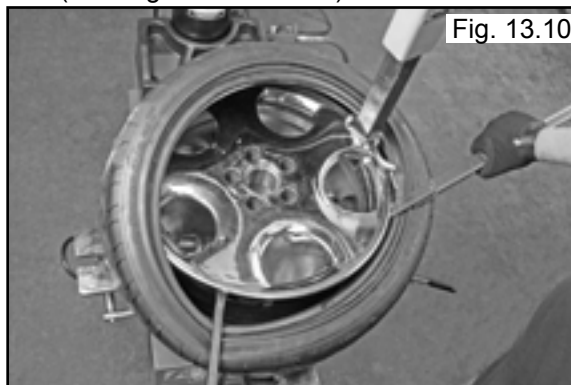

Fig. 13.10
9. Stand firmly in place and be prepared to hold the Bead Lifting Tool down as the tire/ Turntable rotates. Depress the Table Top Pedal and rotate the tire until the bead is mounted. (See Fig. 13.10 - 13.13)